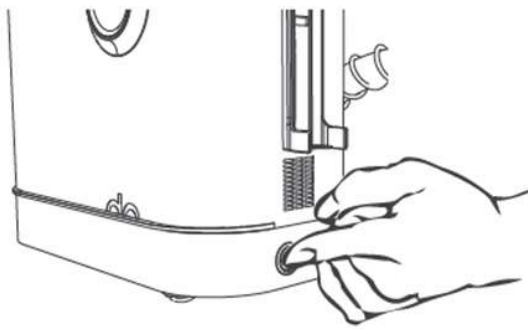

Fig. 7
5. Insert the power plug into the socket and then press the power switch to turn on the appliance (see Fig.7).